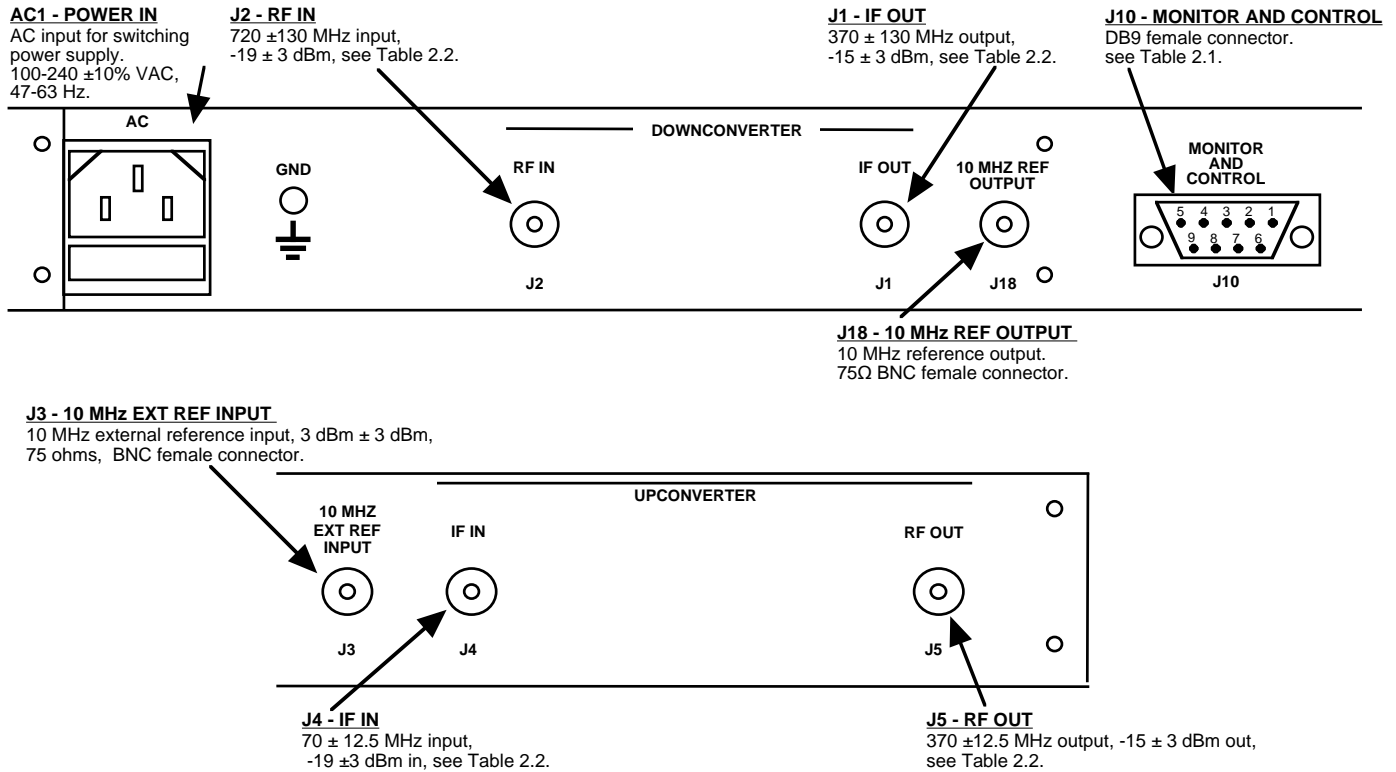

Figure 2.1 Model 2017-370 Rear Panel I/O's
- 1.) Connect a -19 ± 3 dBm signal to IF In, J4 (Figure 2.1).
- 1.) Connect a -19 ± 3 dBm signal to RF In, J2 (Figure 2.1).